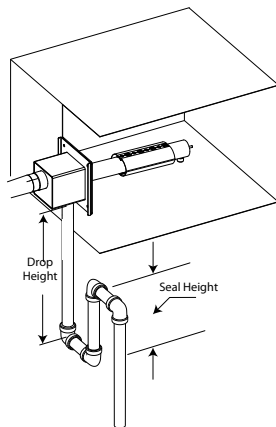

Fig. 3.b
**Nota:** The fittings and pipe for the condensate drain shown in Fig.3.a and 3.b are not included with the ultimateSAM distributor.